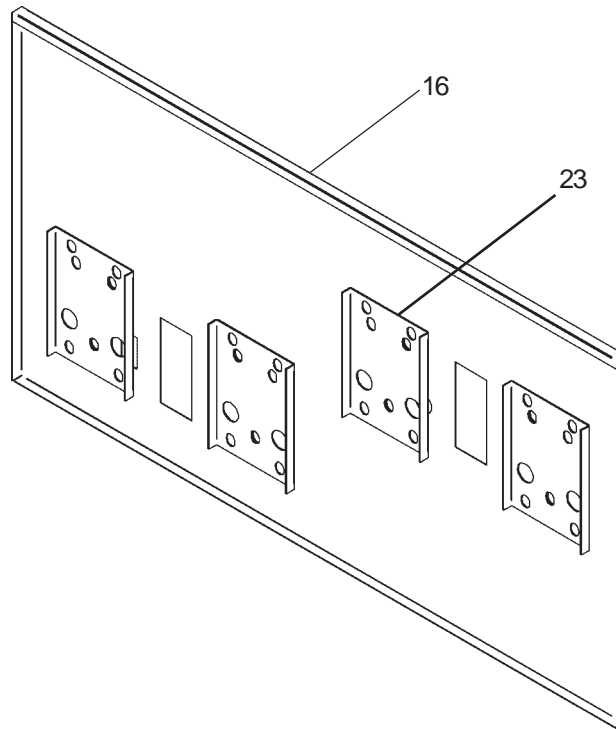

FIG. 9
**Installing back panel:** When installing back panel (item 16) without mounting plate accessory MP20 or MP20RA, attach (4) channel braces (item 23) as shown in FIG. 9. Remove the protective backing from the tape installed on the brace. Line up the corresponding holes in the brace and back panel and press firmly in place.